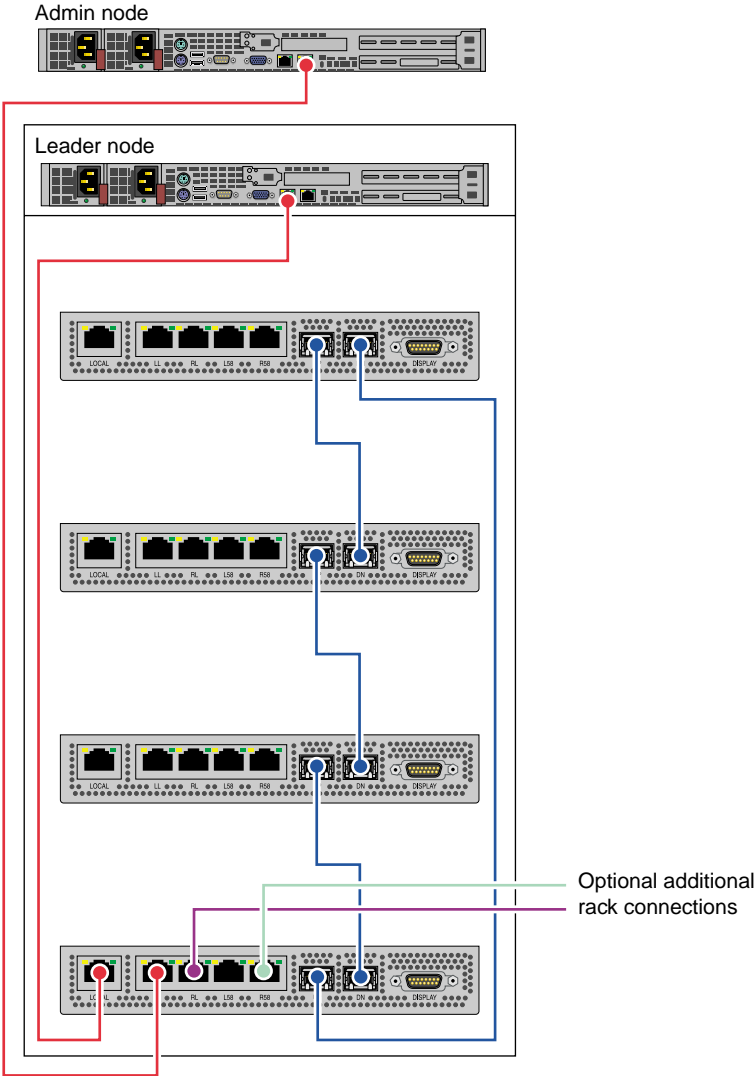

Figure 5-2 Admin/Leader to CMC Cable Examples
2. Disconnect both power cables, see Figure 5-2 on page 241 for server connection locations.